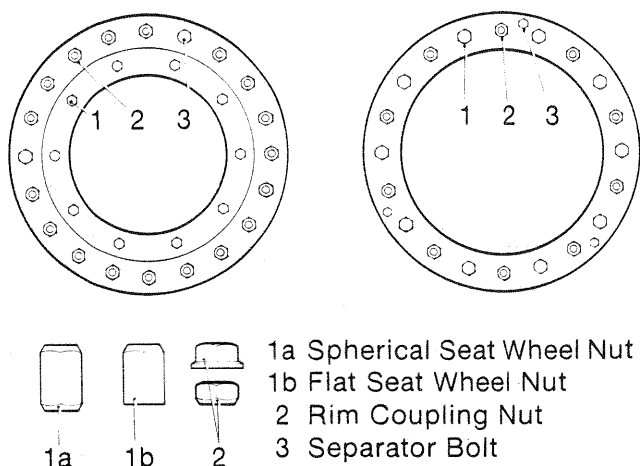

Fig 12-4
Check the wheel and wheel nuts for damage. Tighten the wheel nuts as required to a torque of 405 to 445 N•m (300 to 330 lbf.ft) for FLAT wheel nut seats or 575 to 645 N•m (425 to 475 lbf.ft) for SPERICAL wheel nut seats (See Fig 12-4).
3. Use tire tongs or another suitable tire lifting device to support the rim and remove the WHEEL STUD NUTS (See Item 1 in Fig 12-4). Remove the assembly from the machine.